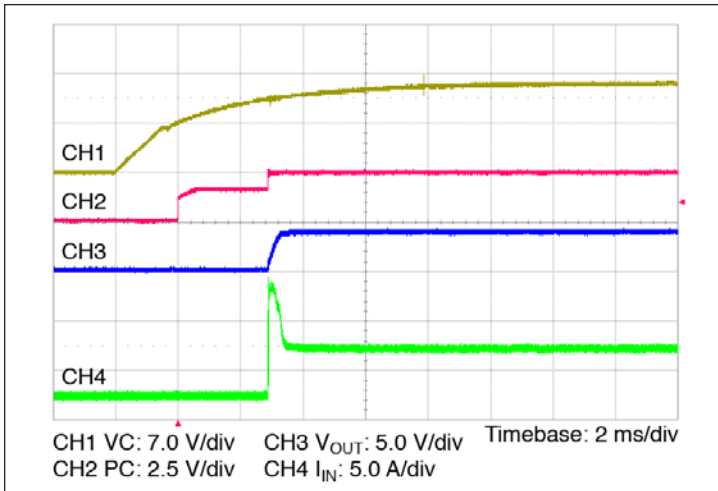

Figure 11 – Start up from application of VC; V_{IN} pre-applied
- Stand-alone operation (VC applied after V_{IN}): In this case the VTM output will begin to rise upon the application of the VC voltage (See Figure 11). The Adaptive Soft Start Circuit (See Section 11) may vary the output rate of rise in order to limit the inrush current to its maximum level. When starting into high capacitance, or a short, the output current will be limited for a maximum of 120 μ/sec. After this period, the Adaptive Soft Start Circuit will time out and the VTM module may shut down. No restart will be attempted until VC is re-applied or PC is toggled. The maximum output capacitance is limited to 1000 μF in this mode of operation to ensure a successful start.